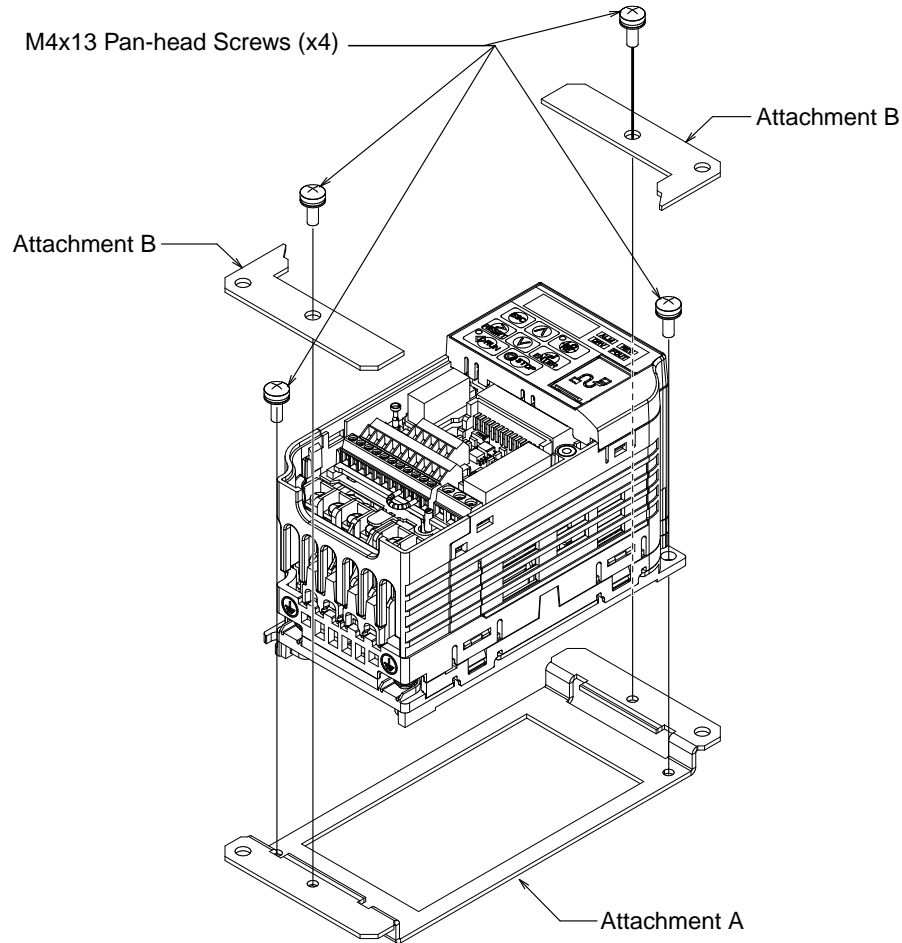

Figure 3 Procedure 1 Diagram (Example Model: CIMR-V□□0001)
3. Mount Attachment B (2 units) to Attachment A with the associated M4×10 pan-head screws as shown in *Figure 3*.